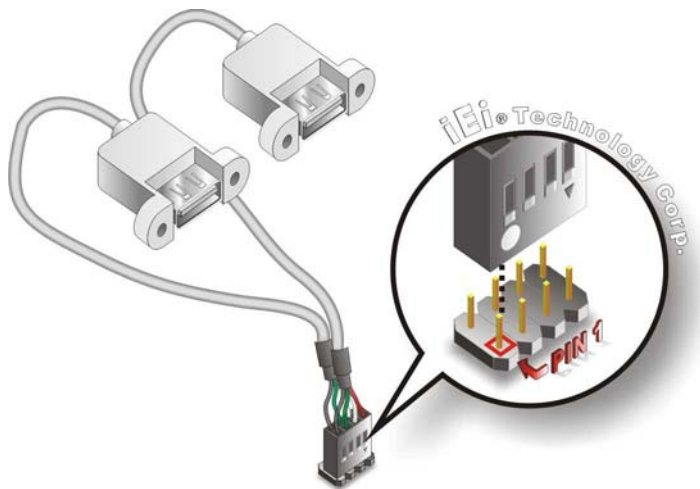

Figure 4-16: Dual USB Cable Connection
Step 3: Insert the cable connectors. Once the cable connectors are properly aligned with the USB connectors on the WAFER-945GSELVDS2, connect the cable connectors to the on-board connectors. See **Figure 4-16**.